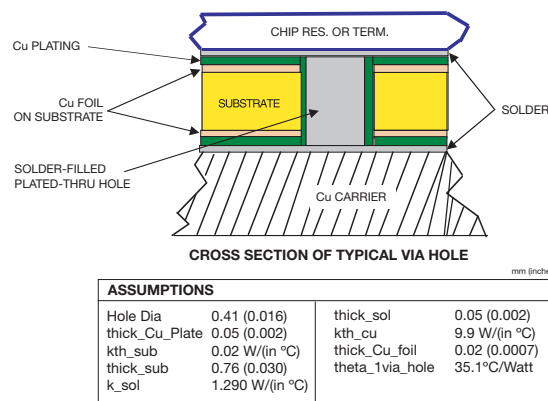

Figure 2: Via-hole cross section and parameters
**Via holes: See Figure 2. Structure – plated through with 2-mil copper, filled with Sn62, Sn63 or Sn96 solder; Diameter = 16 mils; edge-to-edge spacing = 0.5 x diameter = 8 mils;** Notes – The minimum via hole diameter is generally a function of board thickness and is related to “walking” or breaking of the drill bit. The maximum via-hole diameter relates to the ability to wick up solder to the via's full length. Different PC board fabricators will have different design rules that apply.
The calculated thermal resistance of each via, with the assumptions in **Figure 2**, is 35°C/Watt. **Table 1** and **Table 2** below present calculated performance parameters of AVX's standard via patches for various sizes of RP9-style SMT chip terminations and RP4-style SMT chip resistors.